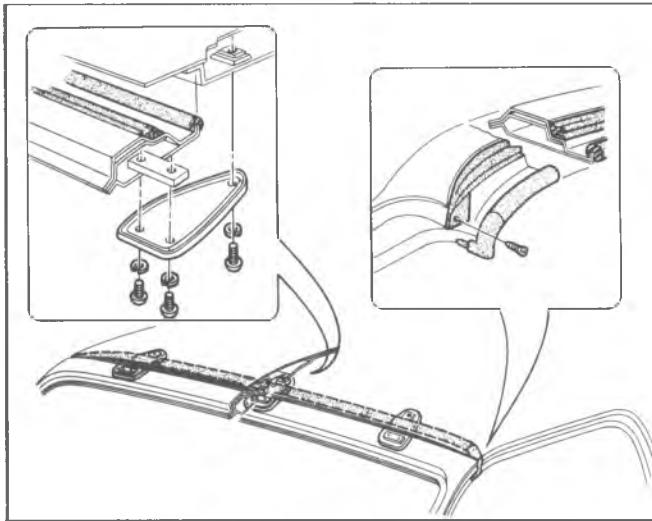

Fig. 71—Roof-to-Header Brackets
1. Remove the bracket-to-roof bolt from each of the top-to-header panel attaching brackets as shown in Figure 71.